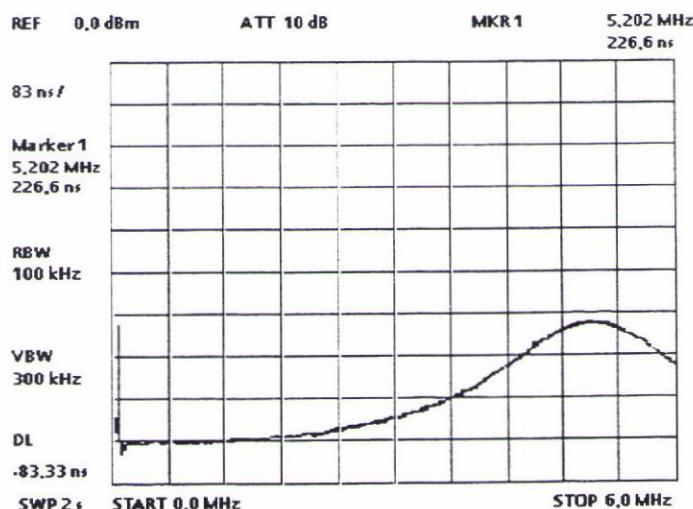

Fig. 7-9 Group delay of allpass filter 5
- Adjust the group delay with R421 so that a delay difference of approx. 217 ns is obtained between 0.5 and 5.2 MHz (see Fig. 7-9).